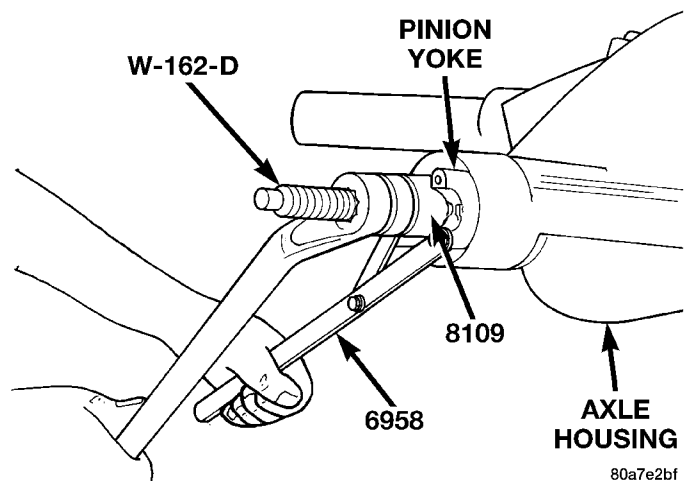

Fig. 52 Pinion Yoke Installation
(8) Install yoke, or flange, with Installer W-162-B, Cup 8109, and Holder 6958 (Fig. 52).
(9) Install the pinion washer and a new nut on the pinion gear. Tighten the nut to 216 N·m (160 ft. lbs.) minimum. **Do not over-tighten.** Maximum torque is 352 N·m (260 ft. lbs.).